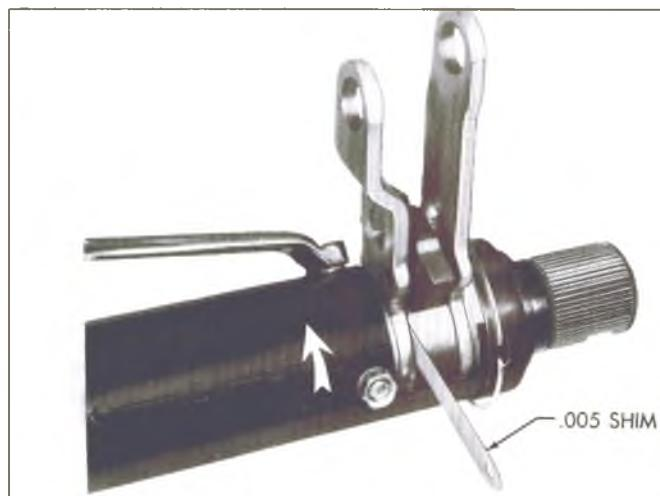

Fig. 72—Adjusting Lower Bearing - Typical
- bearing down and tighten the three screws. Remove the shim (fig. 72).